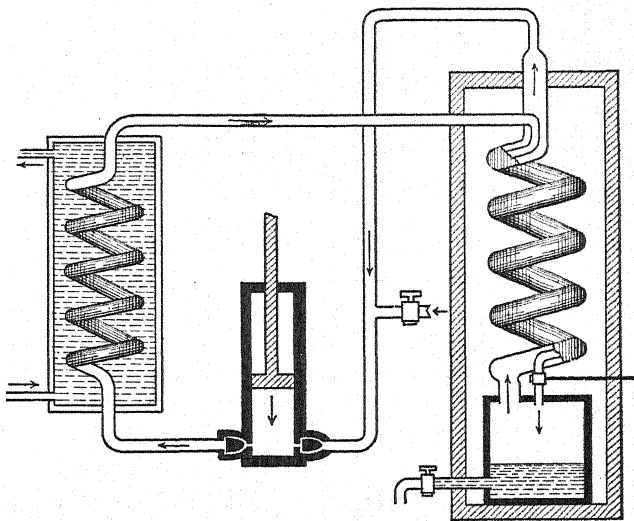

FIG. 109. — Linde's apparatus for liquefying air.
2. *The practice.* By the use of an apparatus like that shown in Fig. 109 the air is compressed by means of a pump. A pressure of from 3000 lb. to 4000 lb. per sq. in. may be used. The hot, compressed air then flows through a coiled pipe that is surrounded by cold water to absorb the heat. As the gas flows out through a *needle valve*, it expands rapidly and becomes cooled. This cooled gas then flows back through the outer of two concentric pipes and cools some of the gas in the inner pipe still more before it expands. When it expands, it is cooled to a still lower temperature. This process is repeated until the *critical temperature* is reached, a temperature to which a gas must be cooled before it can be liquefied by any pressure, no matter how great. This temperature is about  $-140^{\circ}\text{C}$ . for air. At such a temperature, with the high pressure